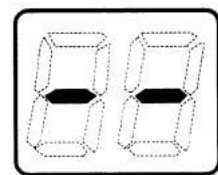

Fig 1.
STEP 2: Check that the display on all Four controllers is lit and displaying a temperature when switched on. If any ONE of the controllers displays two dashes (see fig 1.) in the display repeat STEP 1.